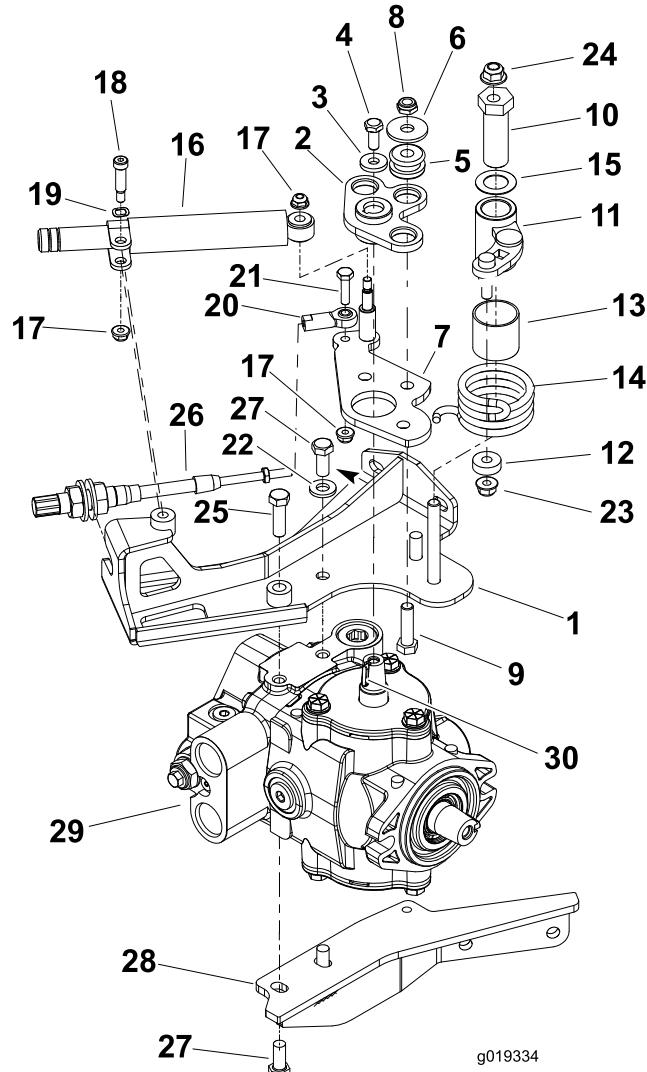

Figure 1
- Disconnect the traction control cable ball joint and jam nuts from the neutral arm (Figure 1). Position the traction cable away from the pump assembly.
Note: The piston pump neutral assembly used on all Greensmaster TriFlex Hybrid machines are very similar. The pump assembly from the Greensmaster 3420 machine is shown in Figure 1.
8. Remove the components from the traction neutral assembly, as needed, using Figure 1 as a guide.
15. Install the (4) capscrews that secure the piston pump back plate to the piston pump assembly. Torque the capscrews to 18 to 20 ft-lb (24 to 27 N·m).
16. Install removed components to traction neutral assembly, using Figure 1, as a guide along with the following: